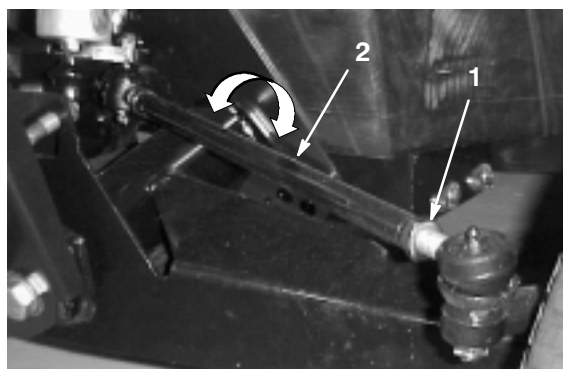

Figure 27
2. To adjust, loosen jam nuts at both ends of tie rods (Fig. 27).